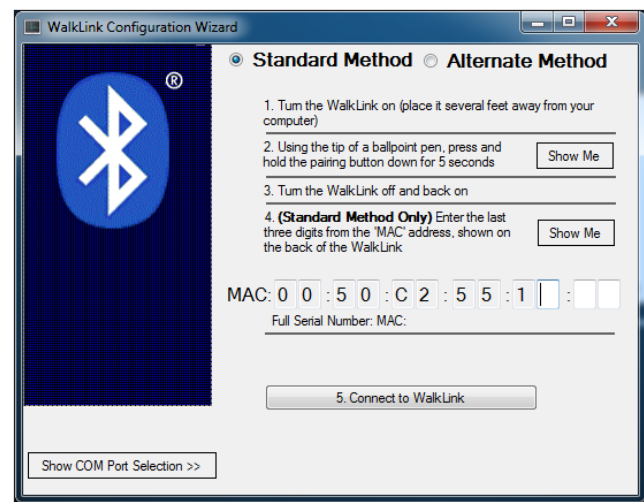

Figure 22: Configuration Wizard
- Enter the MAC Address and Connect: Read the last 3 digits of the MAC address from the back of the WalkLink device and enter them in the appropriate boxes on the WalkLink Configuration Wizard screen (Figure 22) and press the “Connect to WalkLink” button. Press the “Connect to WalkLink” button again if WalkAnalyst fails to find the WalkLink. It may take about a minute to establish a connection to the WalkLink. When finished, a confirmation message will appear. Press OK to complete the initial configuration. The WalkLink will show a blinking blue LED. The blinking green LED and WalkAnalyst WalkLink indicator will turn blue.